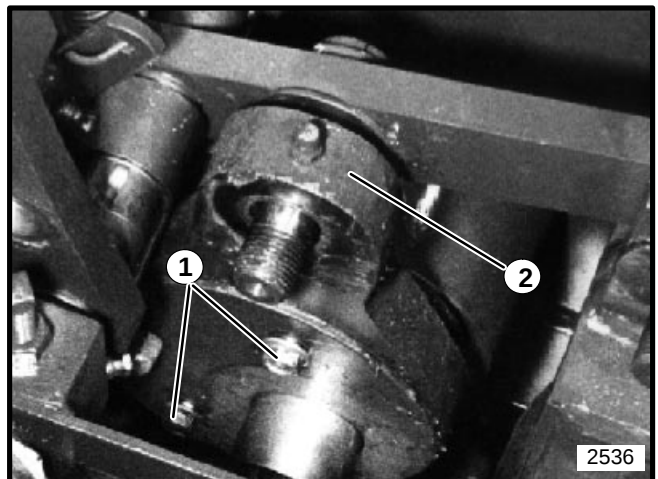

FIGURE 26
7. Remove the two screws holding the retainer on the connecting rod. Remove retainer, seal ring and connecting rod. See Figure 26.
3. Install the right side rocker arm and torque nuts to 100 ft-lbs. (136 N-m). Be sure the key is in the shaft for the rocker arm (refer to nuts shown in Figure 26).